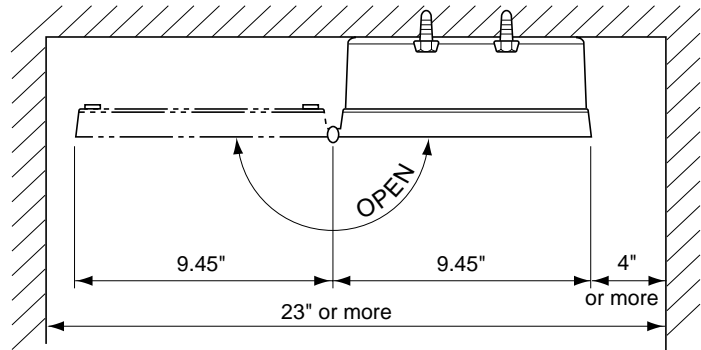

Fig. 2-1 Installation space (top view)
5. Space shown in Fig.2-1 is available for easy inspection and adjustment.